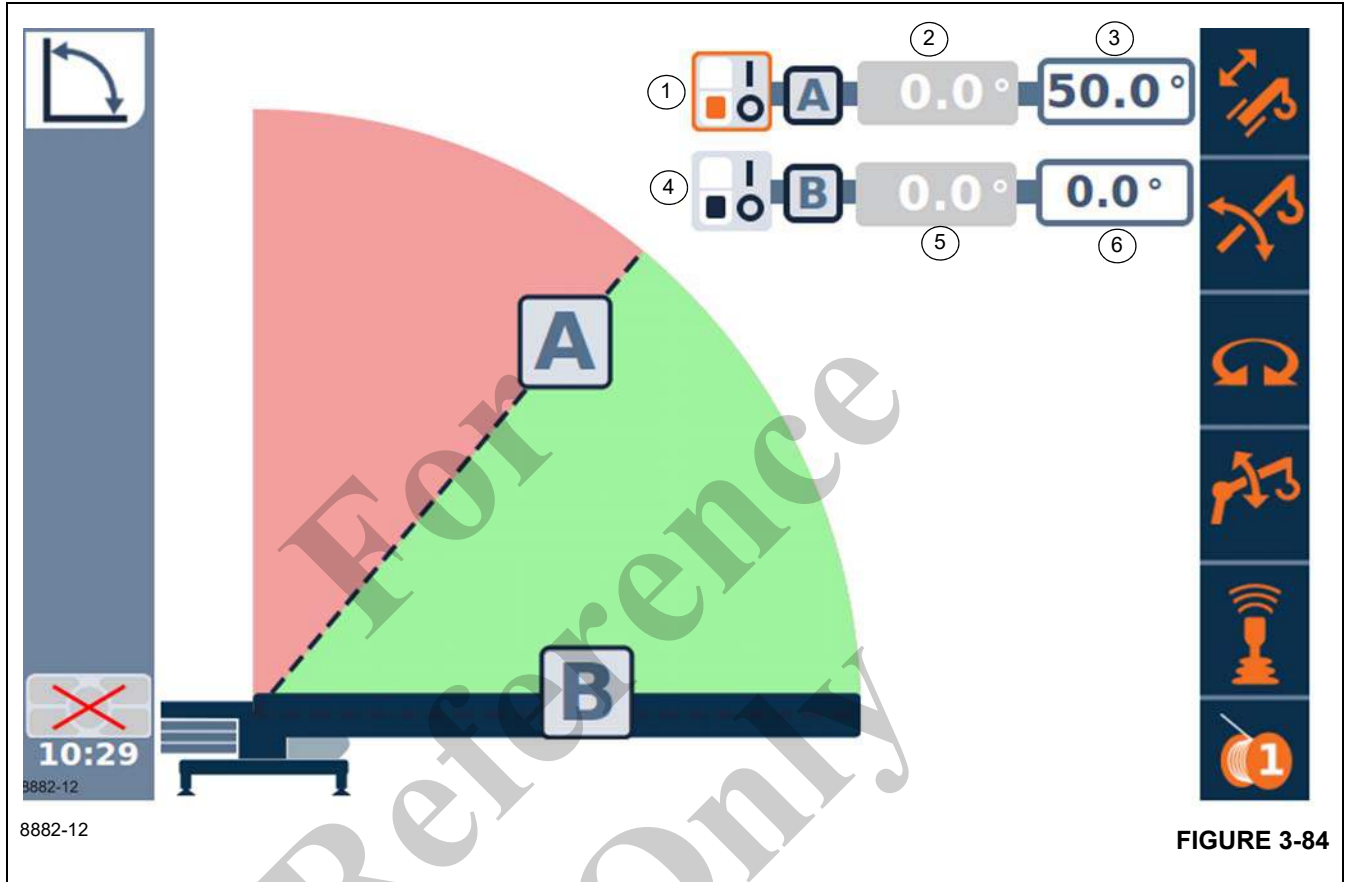

FIGURE 3-84
The Boom Angle Limits Menu (Figure 3-84) allows the operator to set upper and lower limits for the boom to operate within.
2. Select the Boom Elevation Limits Menu Screen (Figure 3-84) on the Main Menu Screen.
1. Select the Boom Elevation Limits Menu screen (Figure 3-84) on the Main Menu Screen.
2. Use the Right Arrow function to highlight the Switch symbol (1).
4. Use the Right Arrow function to highlight the Enter Upper Lifting Limit value (3).
2. Use the Right Arrow function to highlight the Switch symbol (4).
4. Use the Right Arrow function to highlight the Enter Upper Lifting Limit value (6).
1. Select the Boom Elevation Limits Menu Screen (Figure 3-84) on the Main Menu Screen.